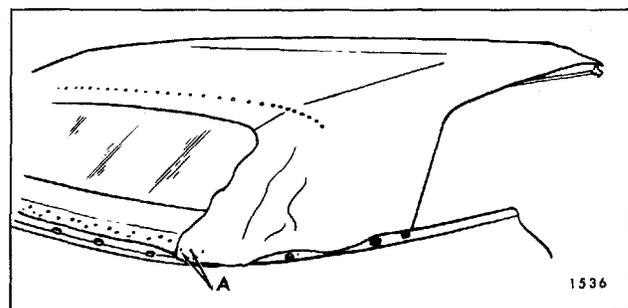

Fig. 6-26—Tacking Top Material
**NOTE:** The deck seam mark will vary slightly ( $\pm 1/4$ " ) depending upon position of rear roof bow. Also check centerline mark on inner lining of top material. Mark should correspond to centerline mark on rear roof bow. (See Fig. 6-26).
38. Using previously marked lines (ends of trim stick) as locating reference, tack top material to rear and rear quarter trim sticks. "A" in Figure 6-26 shows top material installed to rear trim stick at inboard edge.